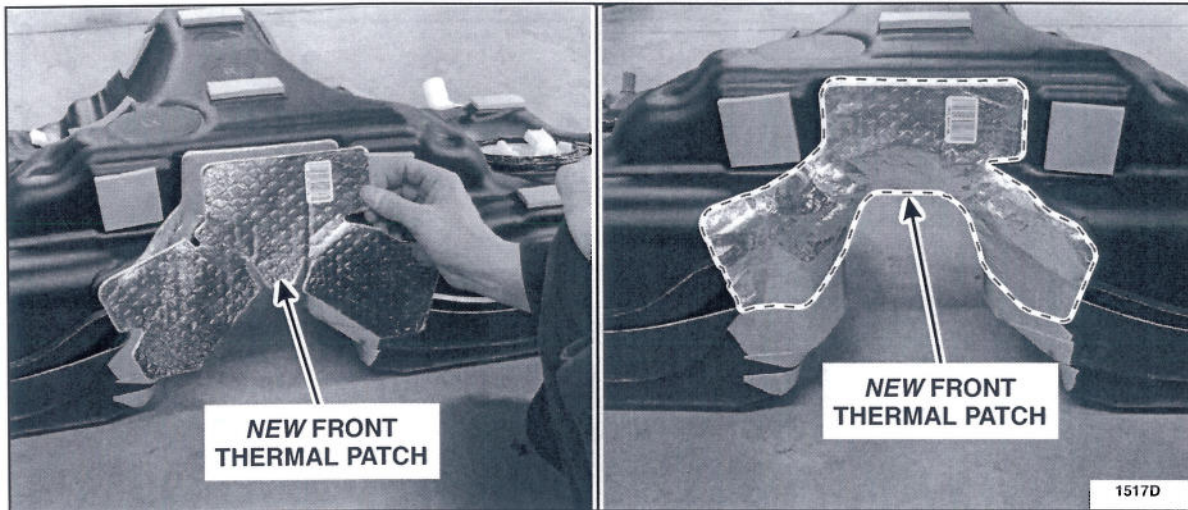

FIGURE 4
5. Apply *new* thermal patch over the existing thermal patch at the front of the fuel tank. See Figure 4.